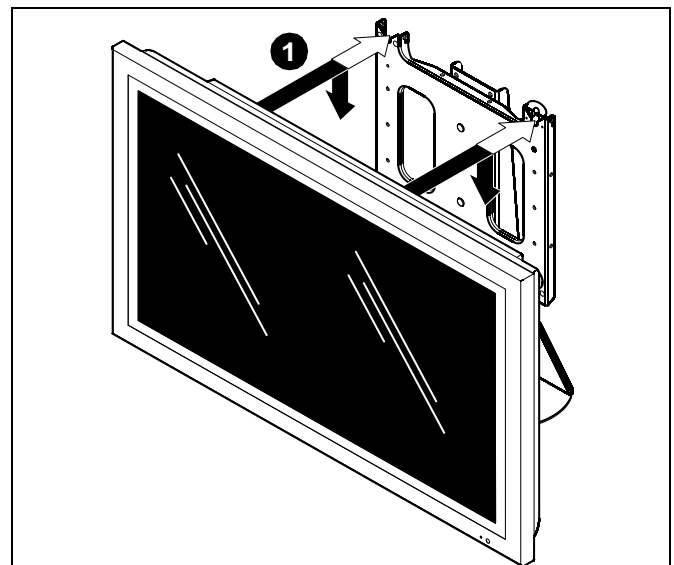

Figure 4
- While supporting both sides of display, align four mounting buttons on display or interface bracket with four mounting holes in mount. (See Figures 4 and 5)
2. Lower display into place listening for audible "click" to ensure recessed area of mounting buttons are properly seated in lower area of mounting holes. (See Fig. 4 and 5)